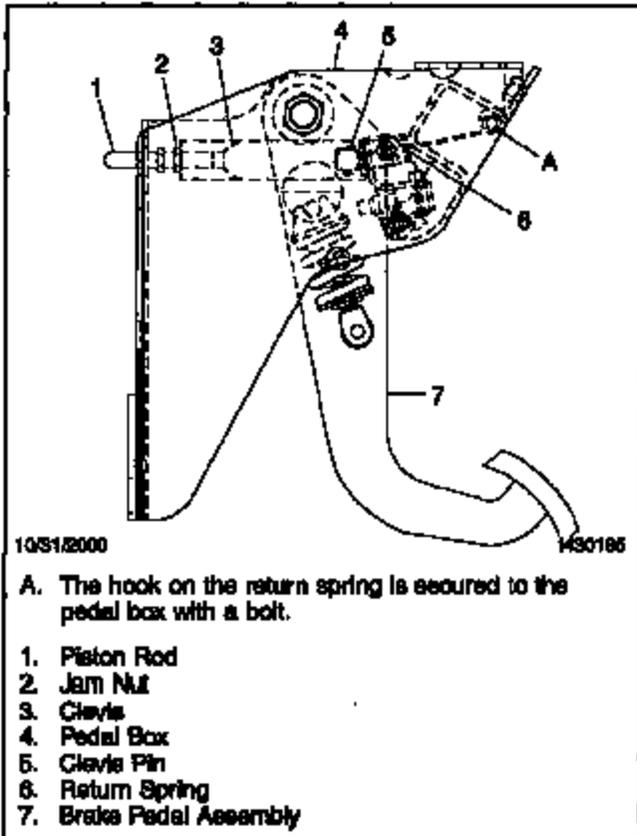

Fig. 5, Piston Rod Installation, Right-Hand Drive
- 3.1 Use a looped wire to remove the hook end of the return spring from the pedal mounting bracket or pedal box. See Fig. 3 for left-hand-drive, Fig. 4 for dual-steer, or Fig. 5 for right-hand-drive vehicles.
- 3.2 Remove the hitch pin clip from the clevis pin. See Fig. 5.